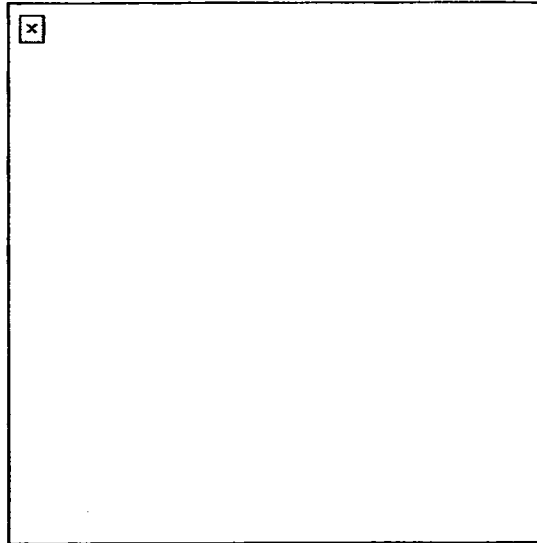

Figure 2. One-hand grip.
- a. Supported grip. The only supported grip is the one-hand grip (Figure 2). Begin by gripping the weapon as previously described (Task Step 3). Allow the thumb of your firing hand to rest without pressure beside your weapon. Place your trigger finger, between the tip and the second joint, on the trigger, so you can squeeze the trigger to the rear. Your trigger finger must work independently of your other fingers.